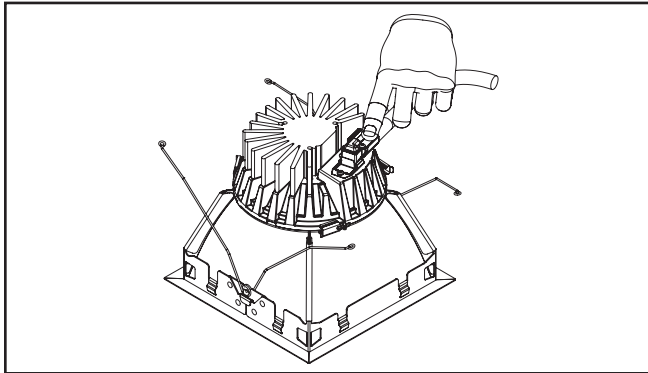

Figure 7
7. Properly align the connector as shown in (Figure 7.). Plug in the luminaire quick disconnect on the module.